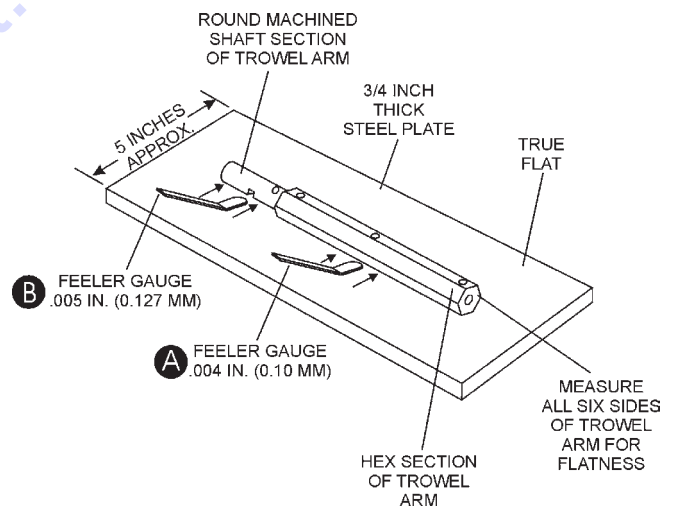

Figure 27. Trowel Arm Flatness Test
- Next, check the clearance between the round shaft and the test surface as one of the flat hex sections of the arm rests on the test surface. Rotate the arm to each of the flat hex sections and check the clearance of the round shaft. Use a feeler gauge of .005" (0.127 mm). Each section should have the **same clearance** between the round of the trowel arm shaft and the test surface (Figure 27, B).